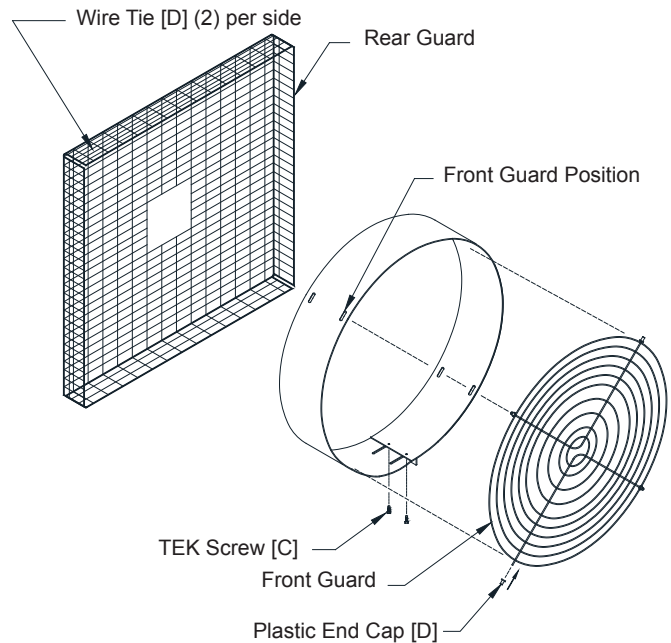

Figure 1
See Figure 1. Screws should pass through slots and secure into small round holes. **DO NOT** tighten.
Install one plastic End Cap [D] on each extended wire of guard (4 total). **See Figure 1.** Mount front guard in adapter by inserting (4) extended wires through slots in adapter. **See Figure 1.**